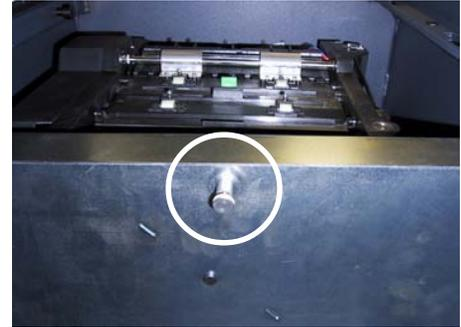

Figure 1. Pull release pin for swivel platform.
1. Open the cabinet vault door. Rotate the dispensing mechanism mounting platform to the service position. To do this, locate the spring-loaded locking pin on the underside of the mounting tray (Figure 1). This pin lets you lock the dispenser's swivel mounting platform into half-turn access positions.